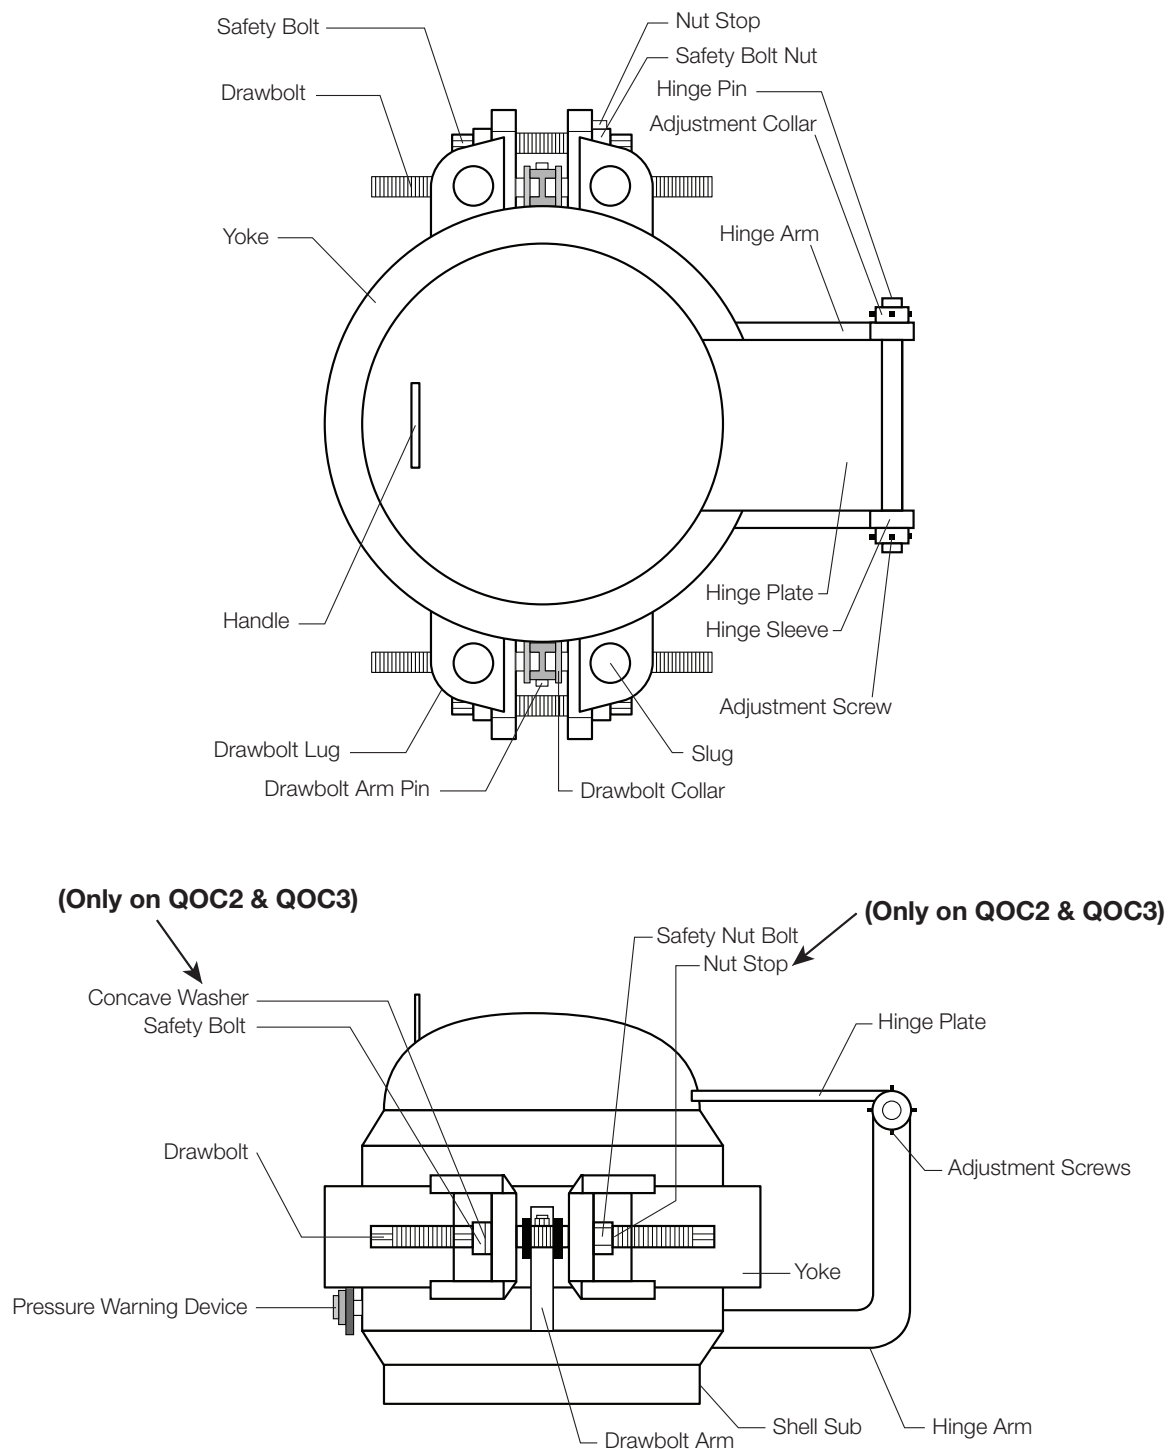

Figure 1: QOC Horizontal Assembly with Parts Identified
- 3.1 A labeled diagram of a horizontal Quick Opening Closure (QOC) is provided in Figure 1 to assist with part identification.